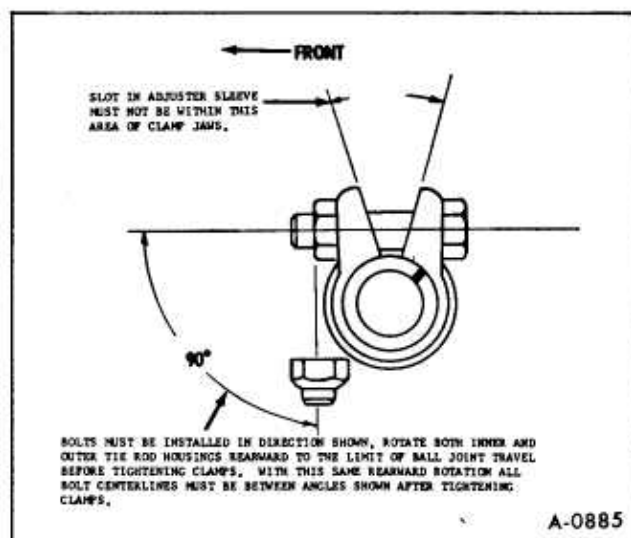

Figure 32-Positioning Tie Rod Clamp
### Toe-In Adjustment (Figure 32)
3. When adjustment has been completed according to the recommended specifications, check to see that the number of threads showing on each end of sleeve are equal and that the tie rod end housings are at right angles to steering arm. Position inner and outer tie rod clamps as shown in Figure 32. Torque nuts to 20 ft. lbs.